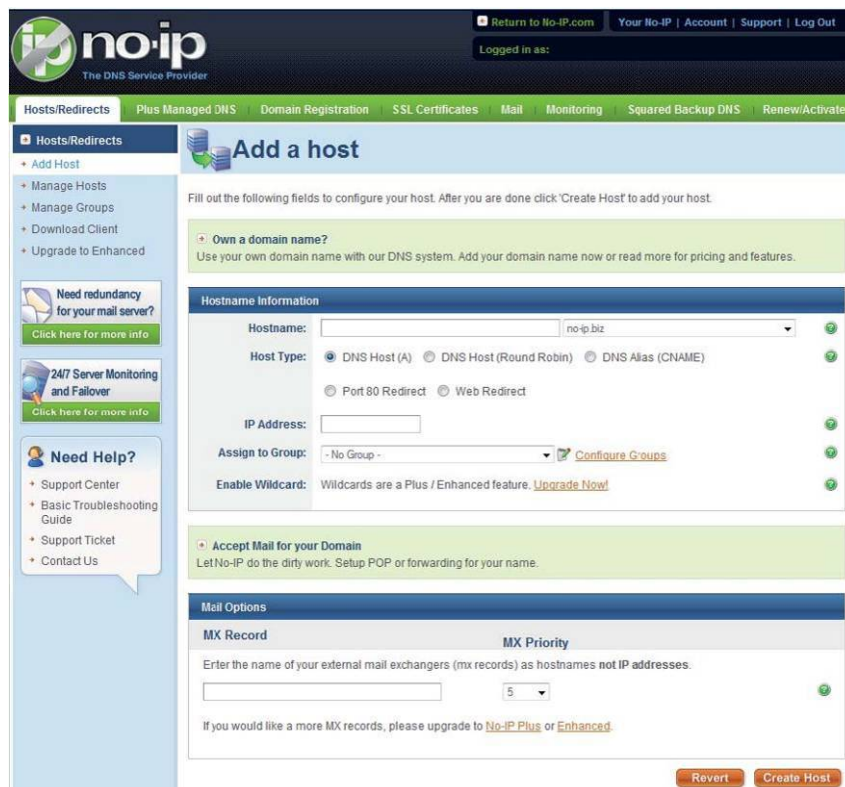

Figure 0-8
8. In Figure 0-8, input corresponding host name in the field. You can use this name to access device from an external network. In the field to the right of the name, select the desired area. This is your domain name for access to the device. Click "Create Host" button at the bottom of the page.